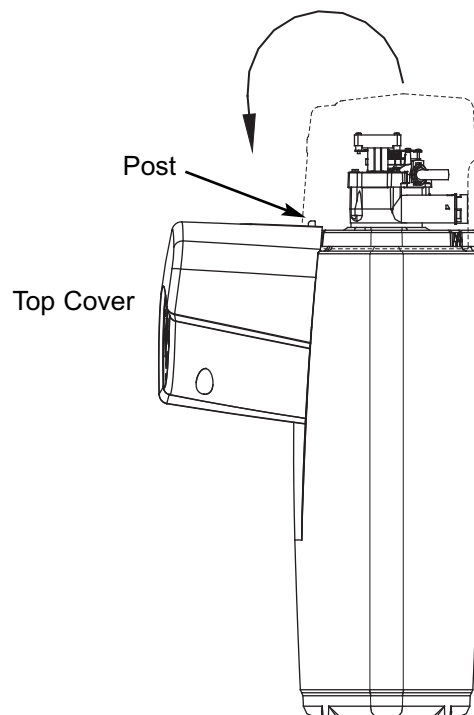

FIG. 9
3. Hang cover from post on front of rim, as shown in Figure 9. Avoid allowing cover to hang from wires.